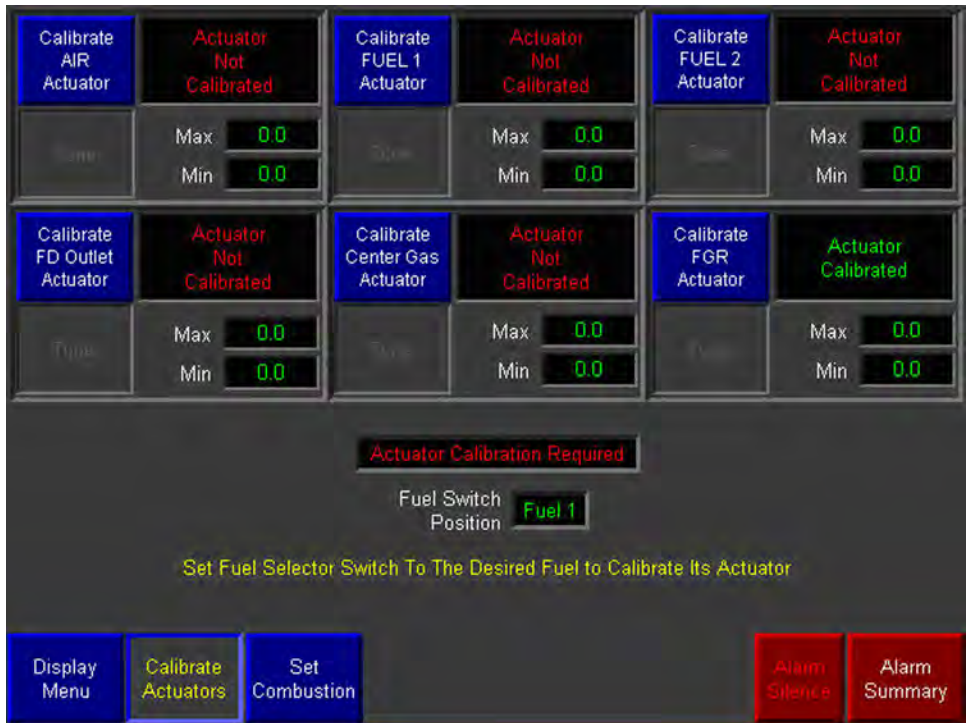

Figure 6-1 Actuator Selection display
From the Display Menu log in as either “Service” or “Factory” and select <Calibrate Actuators>. The display shown in Figure 6-1 will appear.
Figure 6-1 shows panels for up to six (6) actuators – the maximum number of actuators available. The actual number of actuators shown is directly linked to the options selected from the Configuration 3 display (refer to **Configuration 3** in Section 5).